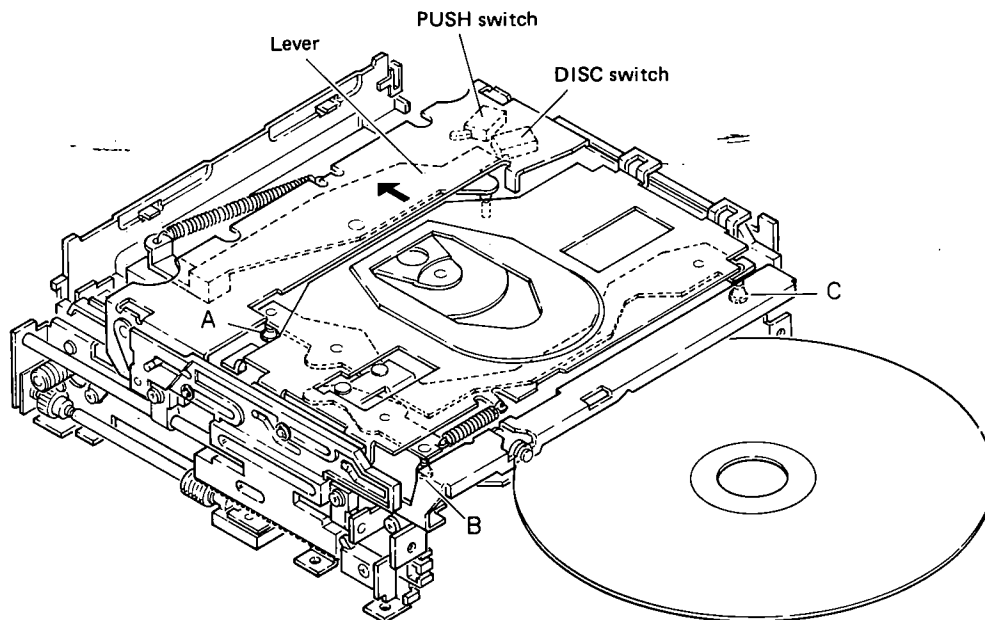
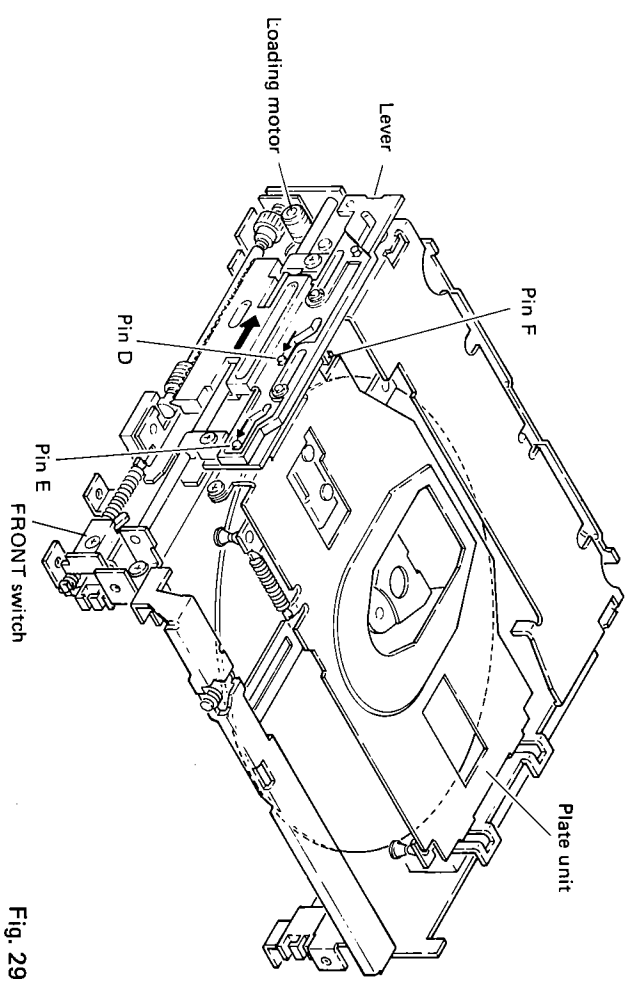

Fig. 28
Fig. 29
1. When a disc is inserted, it is supported at point A, B and C. At the same time, a lever moves toward the arrow direction and the DISC switch is opened (Fig. 28).
2. When the disc is pushed further, a PUSH switch is turned on and the loading motor rotates to start loading (Fig. 28).
A lever and plate unit are shifted toward the arrow direction, then the FRONT switch is opened (Fig. 29). When the center of the disc comes to the spindle motor, plate unit movement toward the back is terminated and it is then shifted down by the pins of D and E (Fig. 29). A lever moves further toward the back which widens point A, B and C (Fig. 28) using pin F and frees the disc (Fig. 29).